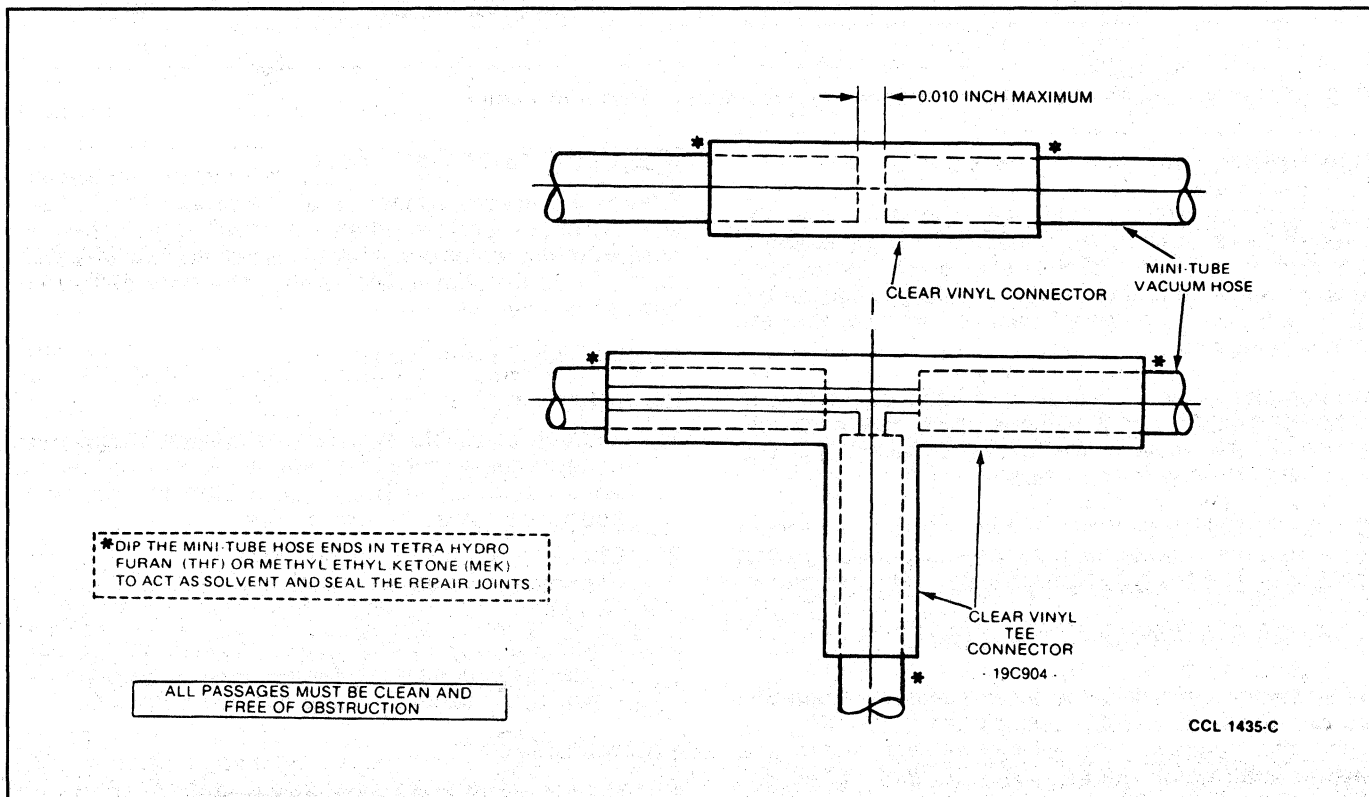

FIG. 7 Mini-Tube Vacuum Hose Service
Mini-tube vacuum hoses are used in the vacuum harness assemblies. They provide greater flexibility with less tendency to collapse and are less susceptible to pinching. Repairs are easily made using a short piece of standard 3mm (1/8-inch) ID vacuum hose and inserting the cut ends of the mini-tube into the ends of the standard 3mm (1/8-inch) ID vacuum hose. Refer to Adjustments and Fig. 7.
5. Insert ends of mini-tube vacuum hose (Fig. 7) approximately 9mm (3/8 inch) into ends of standard 3mm (1/8-inch) service vacuum hose section.